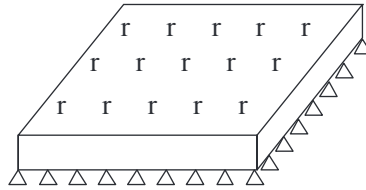

**Figure P12–11**
- 12.11** A square steel plate 2 m by 2 m and 10 mm thick at the bottom of a tank must support salt water at a height of 3 m, as shown in Figure P12–11. Assume the plate to be built in (fixed all around). The plate allowable stress is 100 MPa. Let  $E = 200$  GPa,  $\nu = 0.3$  for the steel properties. The weight density of salt water is  $10.054 \frac{kN}{m^3}$ . Determine the maximum principal stress in the plate and compare to the yield strength.